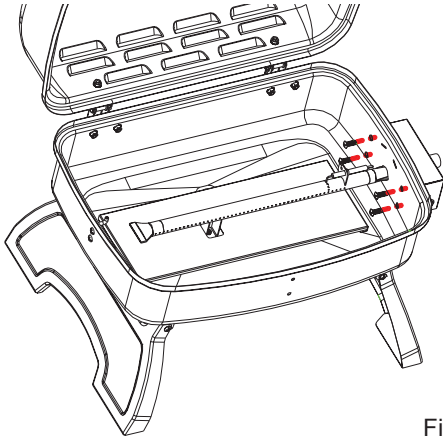

Fig. 3B
Procedure: Attach the Control Panel to the firebox using (4) M6x15 bolts as shown in Fig 3B.